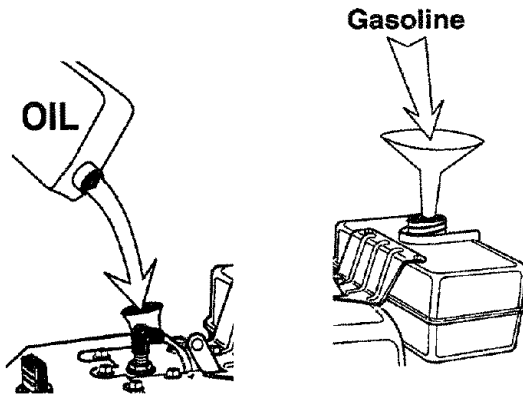

FIGURE 17
- Pour the oil and fill the crankcase to line (Full) on dipstick (19 ounces). See figure 17.
- Fill fuel tank with clean, fresh, unleaded grade automotive gasoline. See figure 17.